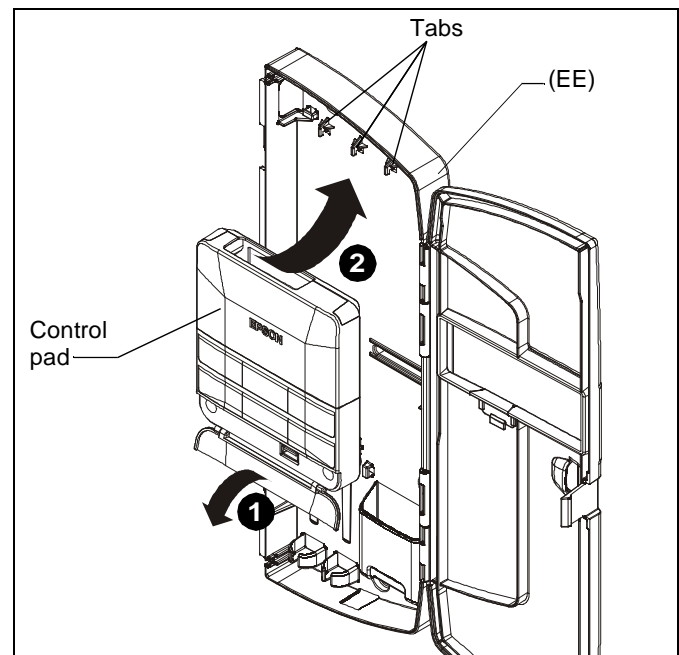

Figure 17
1. Open lower cover on control pad (included with projector). (See Figure 17)
2. Insert control pad into control housing (EE) by sliding it up under tabs inside housing. (See Figure 17)